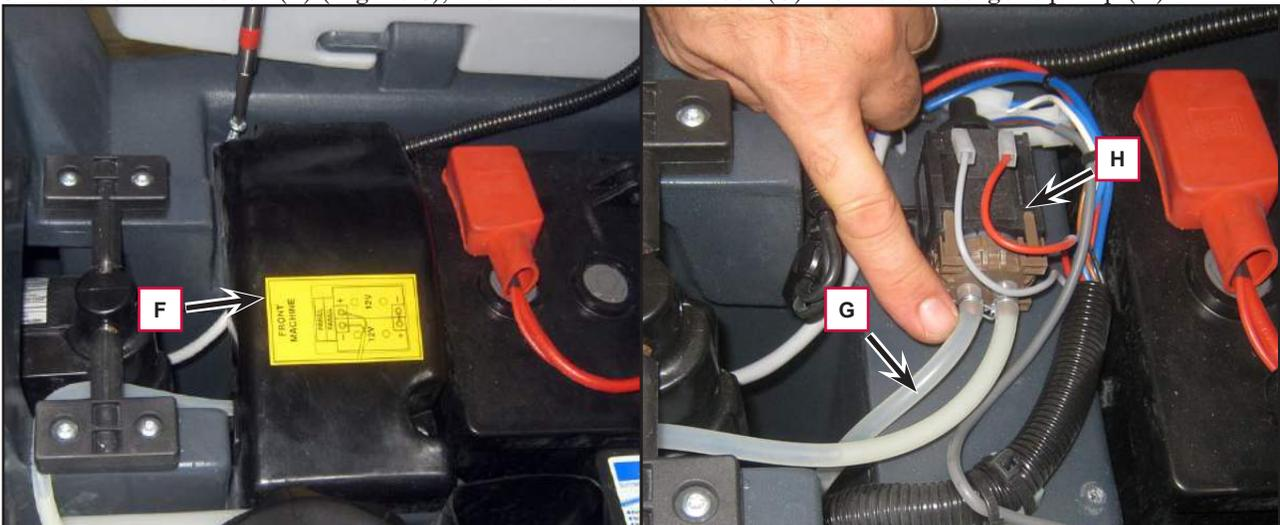

Figure 8
9. Remove the cover (F) (Figure 8), then disconnect the hose (G) from the detergent pump (H).